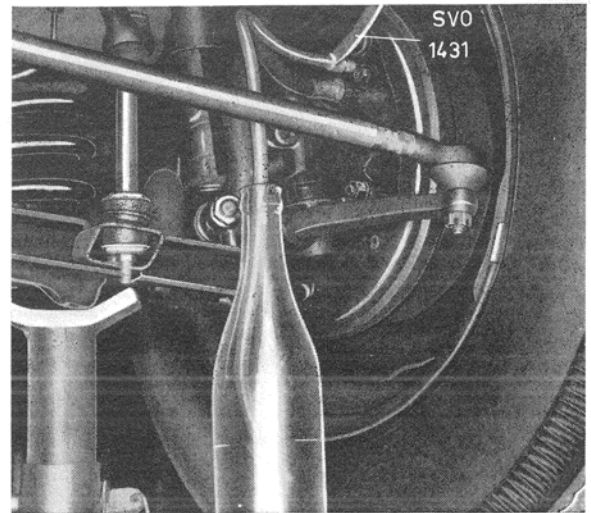

Fig. 30. Venting
3. Place key SVO 1431 with hose on the venting nipple and immerse the other end of the hose in a collecting vessel, see Fig. 30.